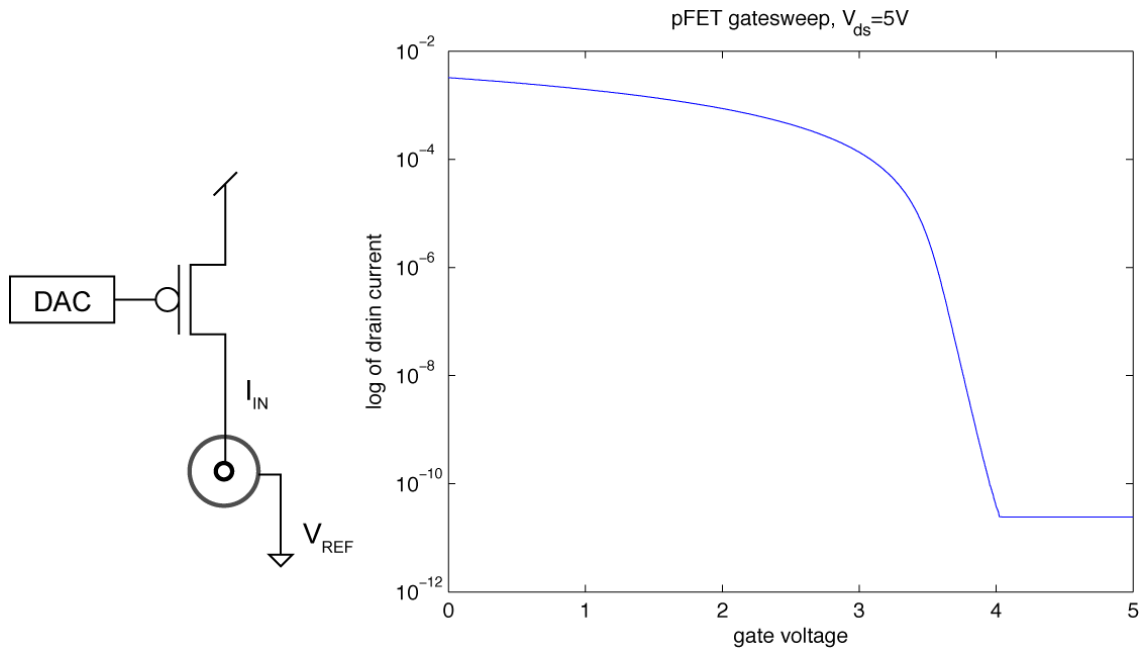

Figure 10: The circuit (a) was used to generate the plot (b)
When one sweeps the gate of the pFET device, one would expect the current to change. The gate voltage (V_g) is described in equation 1 for the pFET and the results of sweeping the gate from 0V to 5V for a drain-source difference across the pFET is shown in Figure 10 (b). This behavior is modeled by the compact EKV model^{1,2}
The current described by (2) can clearly be seen in Figure 10 (b) as the change is linear on a log scale for a gate voltage of approximately 3.5V to 4.0V.